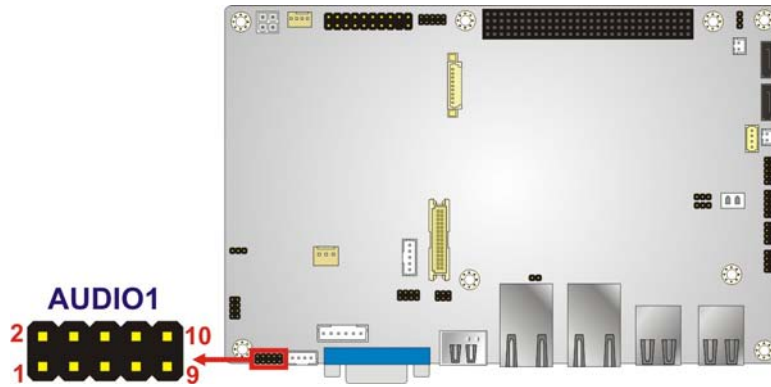

Figure 3-2: Audio Connector Location
- CN Location: See **Figure 3-2**